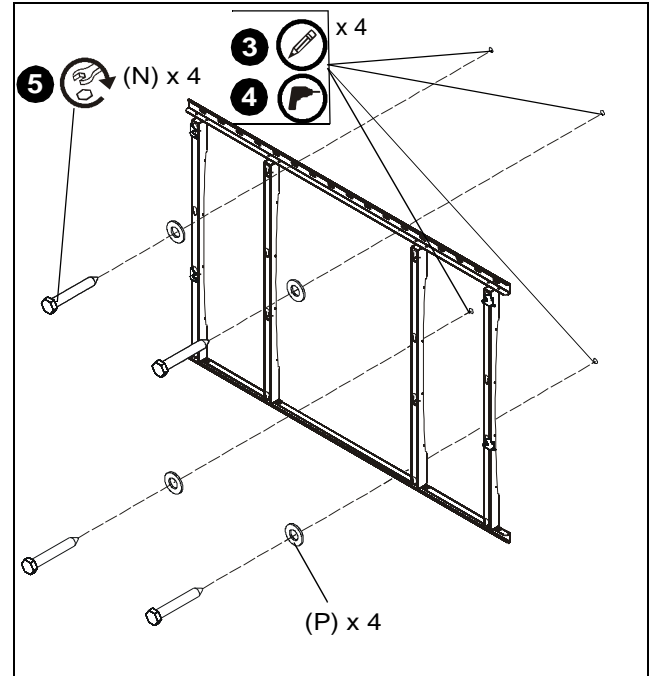

Figure 5
3. Using assembled mount as a template, mark four holes on wall. Use a level to make sure of an even mount. (See Figure 5)
4. Drill four 1/4" holes 2 1/2" deep in wall at marked locations. (See Figure 5)
5. Install four 3/8 x 2 1/2" hex head lag screws (N) through four 3/8" washers (P), holes on mount and into four drilled holes on wall. (See Figure 5)